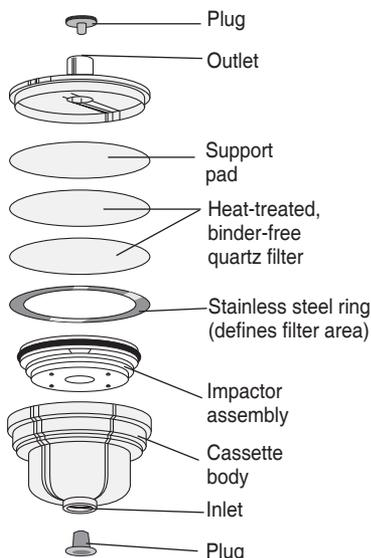

Figure 1. Exploded view of DPM Cassette (Cat. No. 225-317)
1. Remove the plug from the outlet of the cassette (*Figure 1*).